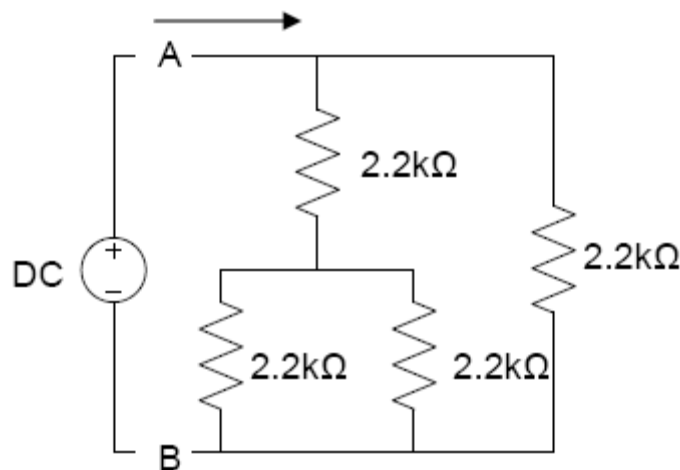

Figure 1
1. Build the circuit shown in Figure 1. To demonstrate the importance of a neat and orderly breadboard layout, use only the resistors and no extra wires (except those connecting to the power supply) to build this circuit. Assuming a maximum of 10 volts, what is the maximum amount of current supplied by the power supply?